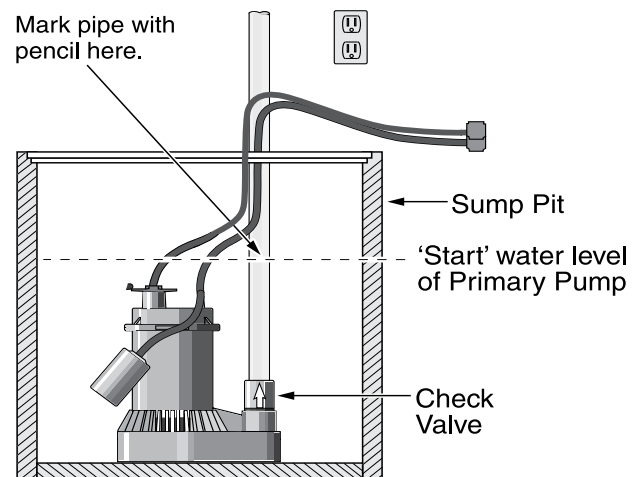

Figure 1: Mark pipe at 'start' water level
1. Locate the high water level in your sump pit (the water level at which the existing (primary) sump pump starts - see Figure 1). Turn off power to pump and mark this point on the discharge pipe with a pencil or marker.
3. If the sump is too small to allow both pumps to sit on the bottom of the sump, install an angle bracket on the primary sump pump's discharge pipe with stainless steel hose clamps. Mount the backup pump on the angle bracket. See Figure 1, "Separate Discharge".
4. Cut a piece of 1-1/2" PVC pipe to reach from the back-up pump discharge elbow to about one (1) foot above the basement floor. This is the lower discharge pipe.